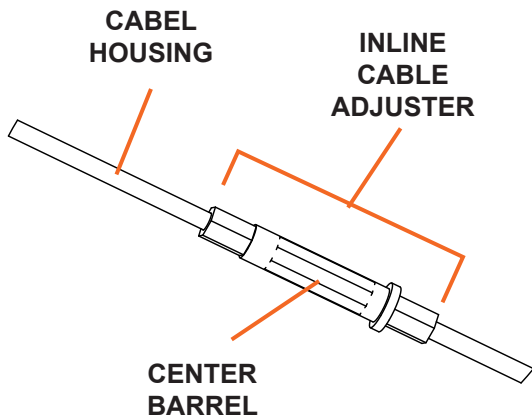

Figure 4
1. Extend the inline cable adjuster by rotating the center barrel (see Figure 4). This pushes the cable housing further out and tightens the cable. If no more adjustment can be made, belt may have to be replaced.